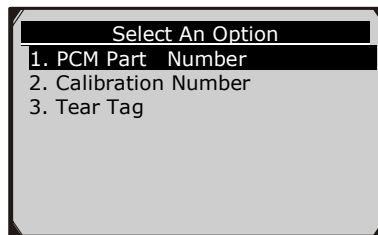

Figure 6.10
- 3) To enable scan tool to identify the vehicle specifications, follow the onscreen instructions to the **Option** menu, and select one of the three entries: **PCM Part Number**, **Calibration Number** or **Tear Tag** to fill up the vehicle information. (Figure 6.10)